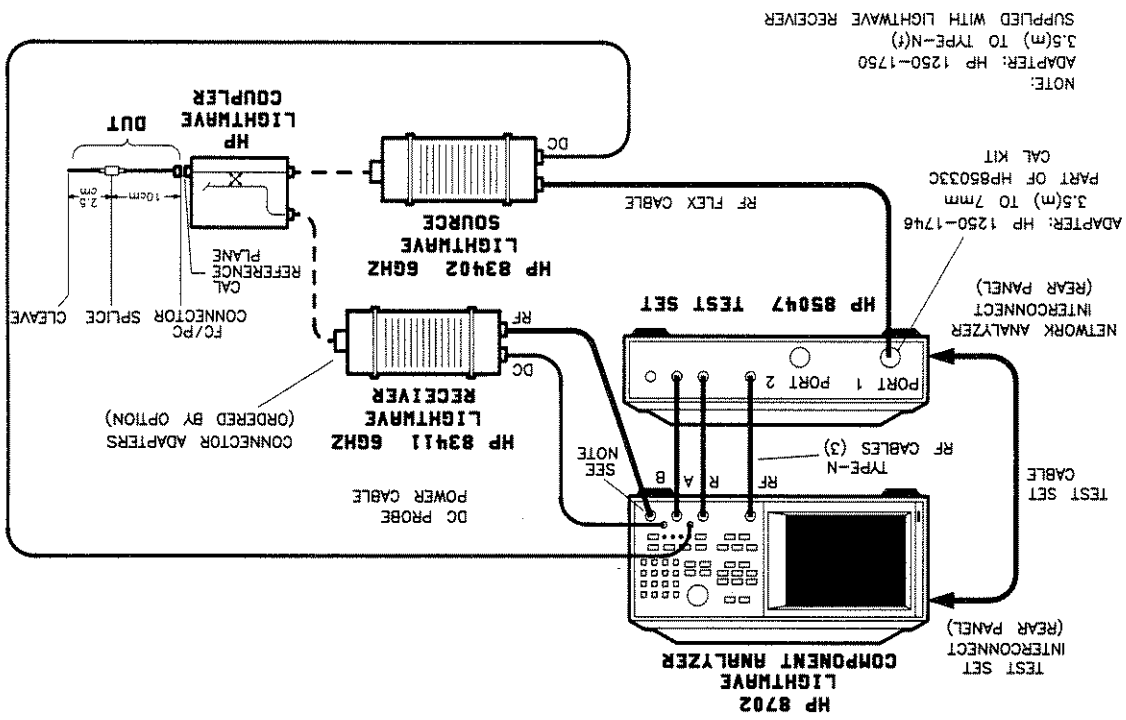

Figure 23. Reflection Test Setup
1. Connect the system as shown in Figure 23. Be sure all the connections are clean. Index matching gel can be used on the connections, if properly applied and properly cleaned afterwards.